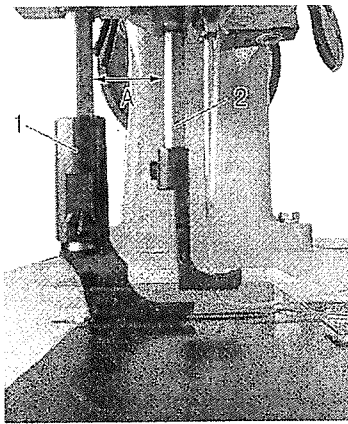

Fig.21
14. RELATIVE POSITION OF VIBRATING AND LIFTING PRESSER BAR, OF THE NEEDLE AND THE NEEDLE HOLE OF THE FEEDER (Figs. 21 & 22)